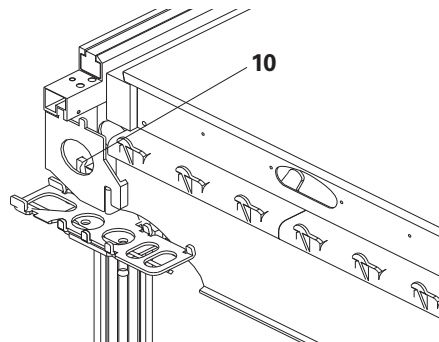

Fig. 40
- support de rive SSL (10) (Fig. 40)